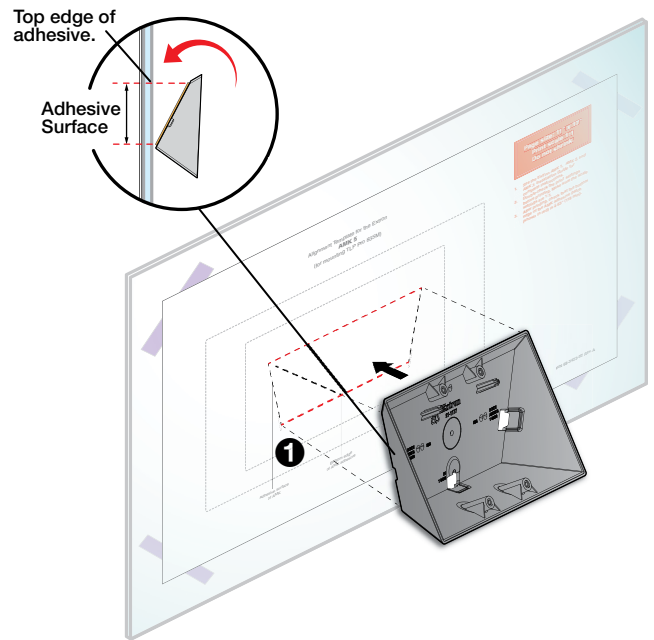

Figure 4. Attaching the AMK to the Glass
6. Hold the AMK at an angle with the top away from the glass and align the bottom edge of the AMK with the red solid line on the alignment guide marked “Bottom adhesive side edge of AMK...”. Rotate the top of the AMK so that the adhesive pad attaches to the glass (see figure 4 inset).
7. Press the AMK firmly against the glass for at least 30 seconds. (see figure 4, ❶).